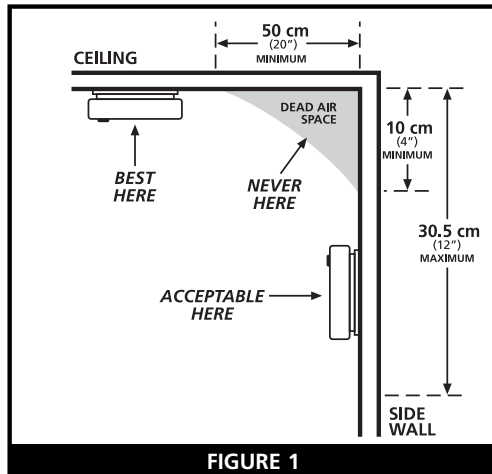

FIGURE 1
- When mounting an alarm on the ceiling, locate it at a minimum of 50 cm (20") from the side wall. (see Figure 1).
- When mounting the alarm on the wall, use an inside wall with the top edge of the alarm at a minimum of 10 cm (4") and a maximum of 30.5 cm (12") below the ceiling. (see Figure 1).